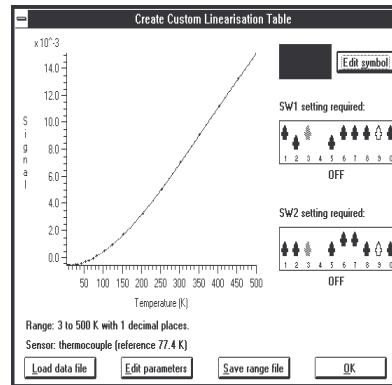

Figure 3
- Choose the item “Setup”/”Create Range” to bring up a dialog box like Figure 3